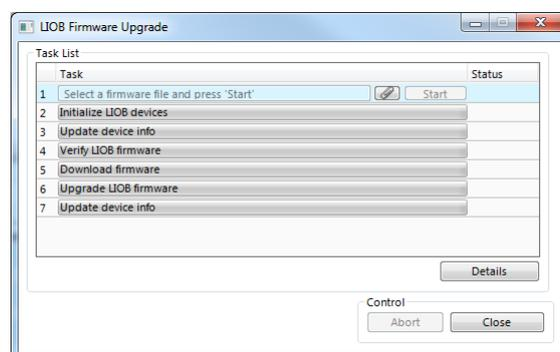

Figure 70: L-IOB Firmware Update dialog of the Configurator
3. This opens the Firmware Update dialog as shown in Figure 70. Click on the  button and select the L-IOB firmware image. Observe that LIOB-45x/55x devices need a different firmware than the other models.
3. This opens a Firmware Update dialog similar to Figure 70. Click on the  button and select the L-IOB firmware image. Observe that LIOB-45x/55x devices need a different firmware than the other models.